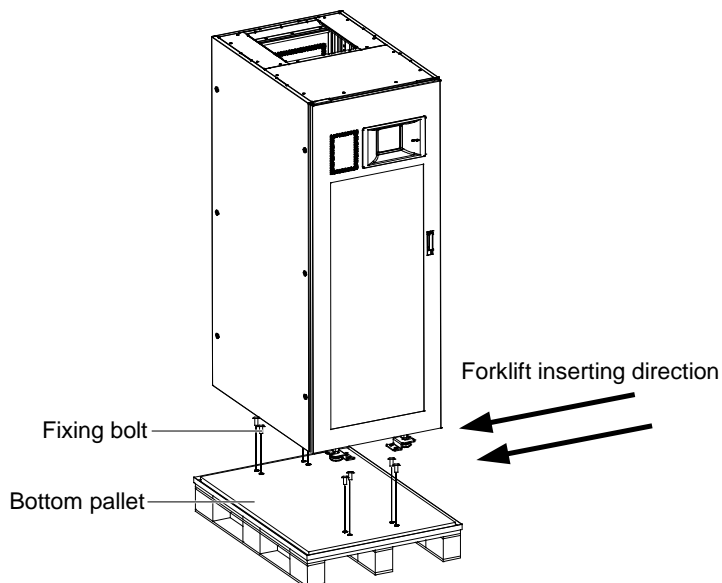

Figure 2-4 Removing bottom pallet
2. Remove the fixing bolts of the bottom pallet (see Figure 2-4), and reserve the fixing bolts. Then use the forklift (following the inserting direction shown in Figure 2-4) to move the cabinet near the installation place.